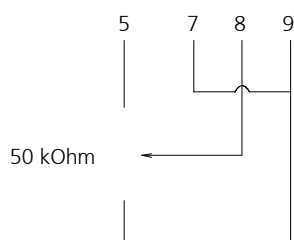

figure 25
2. Connect the potentiometer of 50 k Ω with the controller (see figure 25).